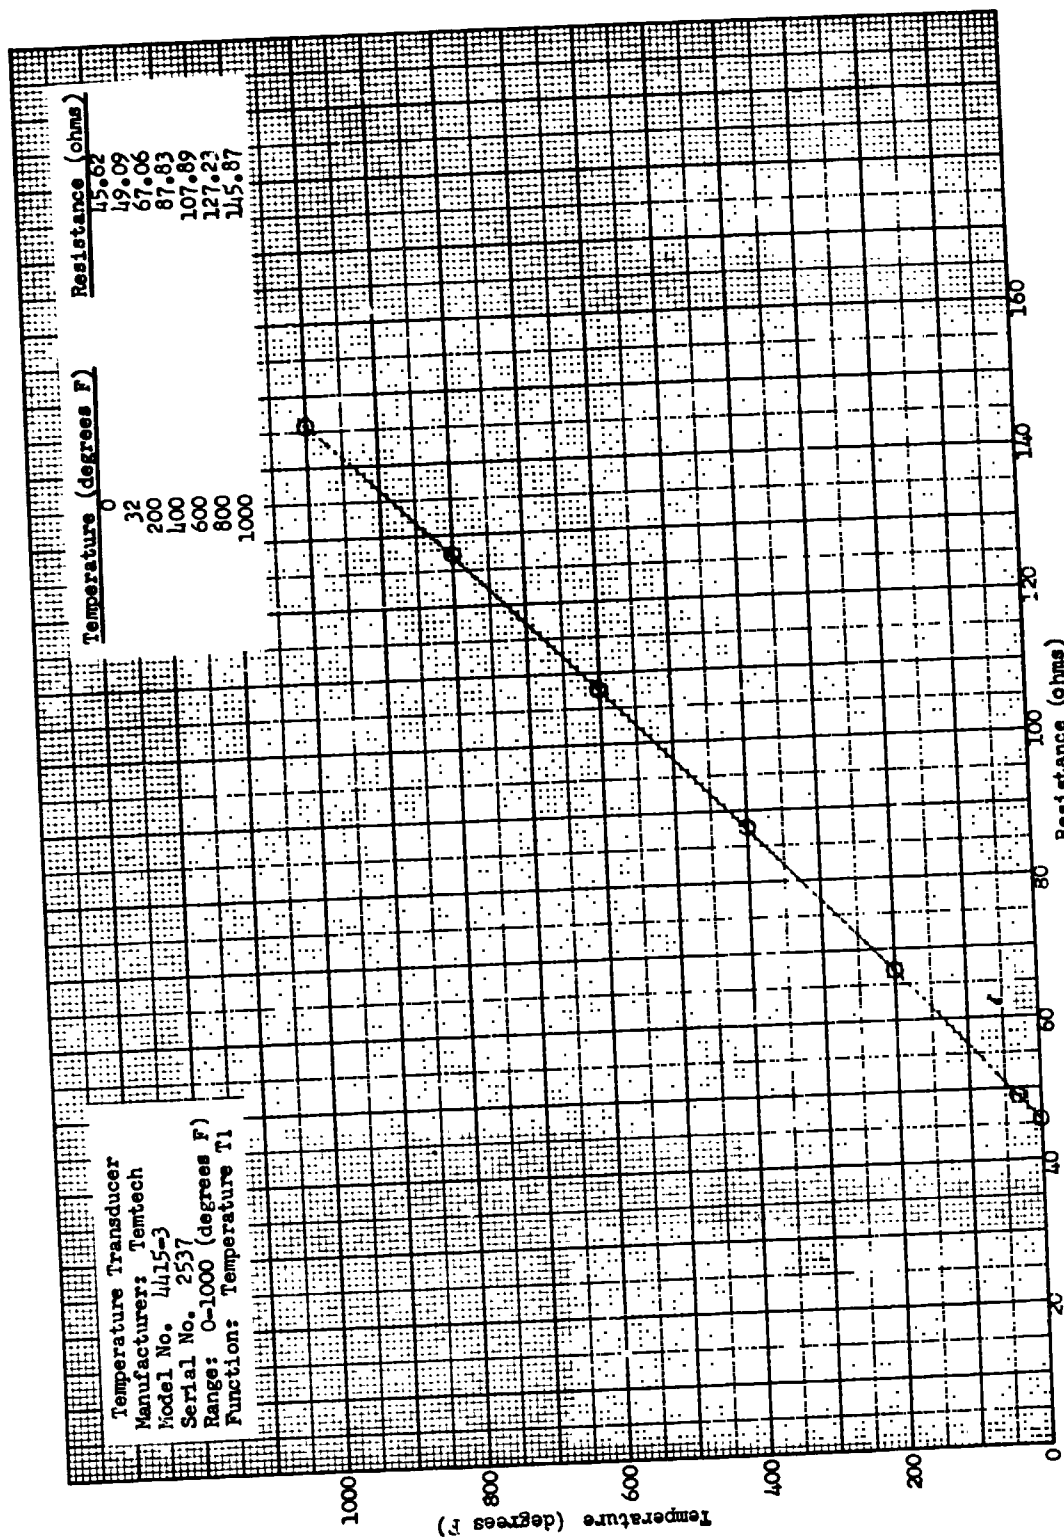

Figure 28. Temperature Sensor Calibration, T1
**Figures 28 through 36 are the calibration curves for the temperature transducers T1 through T8, respectively.**